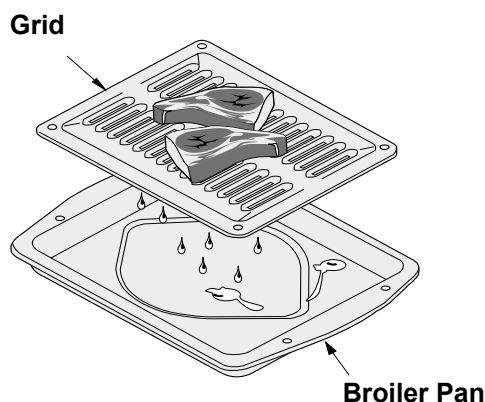

Figure 1
- Always use the broiler pan and its grid when broiling. It allows the dripping grease to be kept away from the high heat of the broil element (see Figure 1).